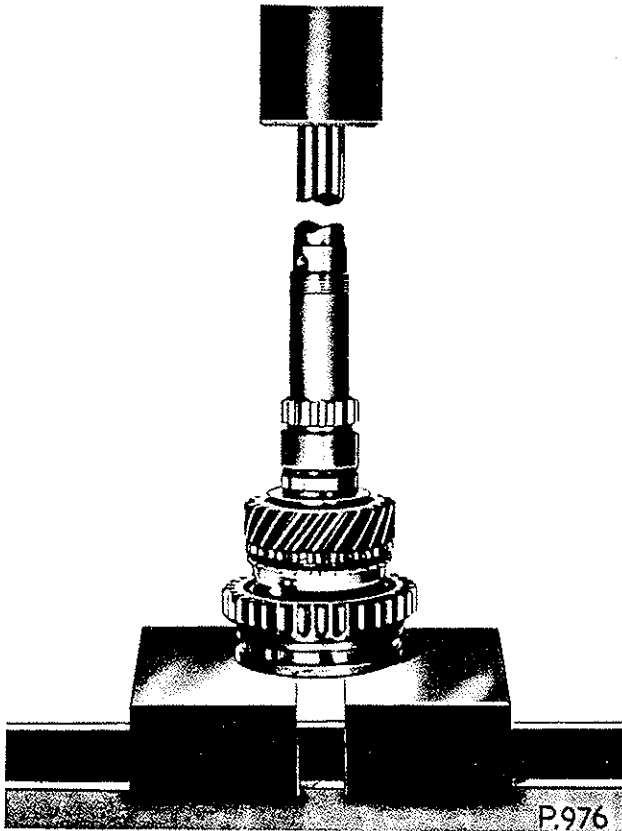

Fig. E.20. Refitting the 3rd and 4th synchro hub assembly
- (d) The 3rd and 4th speed synchro hub must be pressed on the mainshaft. Hold the mainshaft, on a suitable press, in an upright position with the 3rd speed gear and baulk ring in position (see Fig. E.20). Place the synchro hub assembly on the mainshaft splines, and with the aid of the press, press the synchro hub into position, making sure that the three recesses in the baulk ring coincide with the shifting plates in the synchro hub. It is essential that the hub is fully located against the mainshaft shoulder as the end float of the 3rd speed gear is controlled at this point.